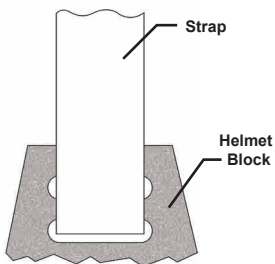

Figure 4-7. Helmet Strap Size Adjustment
1. Remove mount assembly from the carrying case. Refer to Figure 4-7 and 4-8 for the helmet mount features.